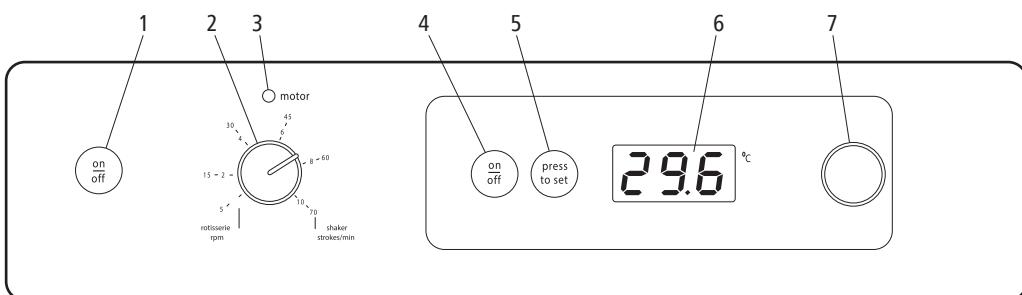

Figure 3: Front panel controls
panel (number 4 to 7 in figure 3).
- 5.6 The speed controls are on the left hand side of the control panel (numbers 1 to 3 in figure 3). Turn the rotisserie / shaker ON by pressing the on / off button (1). The red indicator light (3) above the speed selector dial (2) will illuminate.